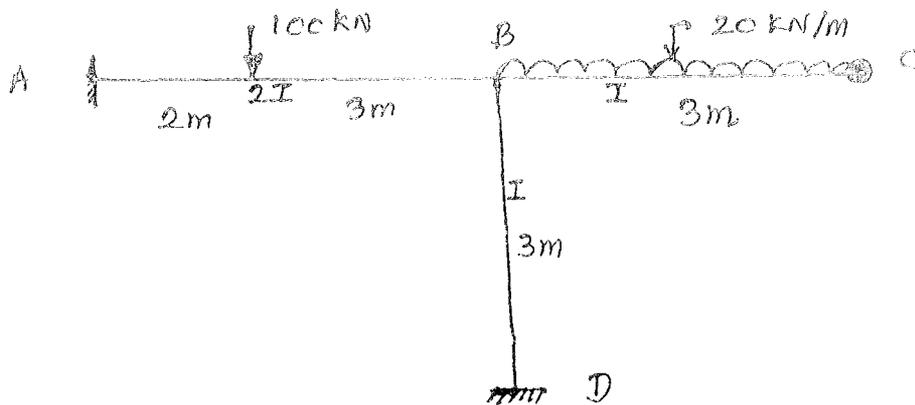

Fig. 8
- (b) Analyse the frame shown in Fig. 8 by stiffness method.